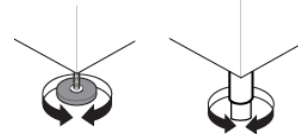

Fig. 4
- 1- Position the dishwasher and level the appliance by turning the respective height-adjustable feet. (Fig.4)